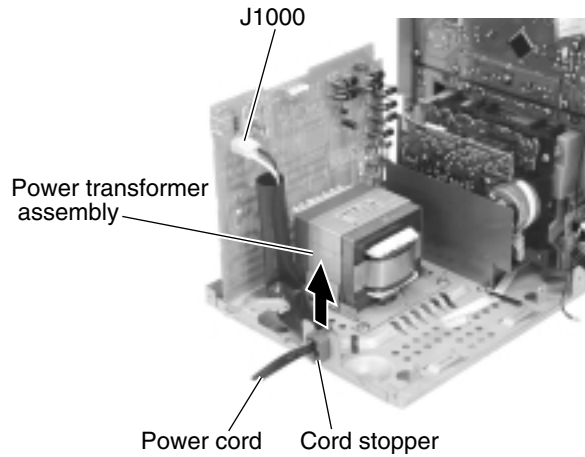

Fig.22
**■ Removing the power transformer assembly (See Fig.22 and 23)**